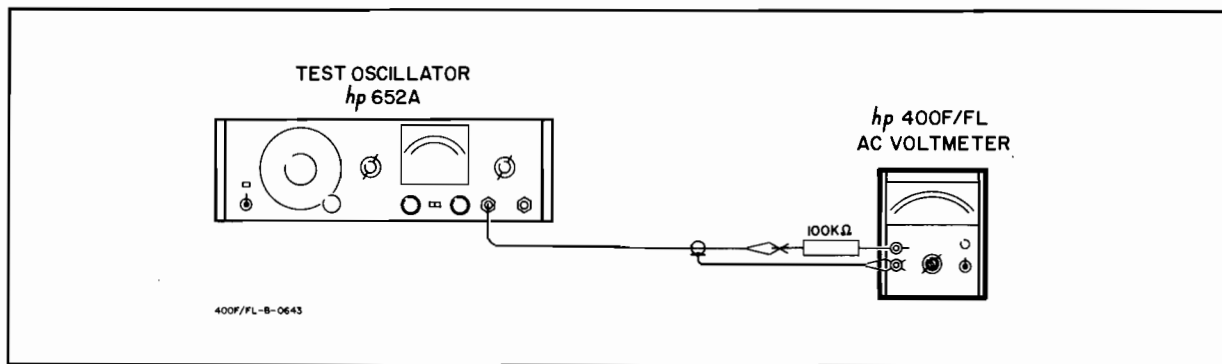

Figure 5-3. Input Impedance Check Setup
- a. Connect test oscillator and a 100 K Ω resistor to 400F/FL as shown in Figure 5-3. Connect the resistor lead directly to the GR connector.
- d. Connect a 100 K Ω resistor between test oscillator and 400F/FL as shown in Figure 5-3.